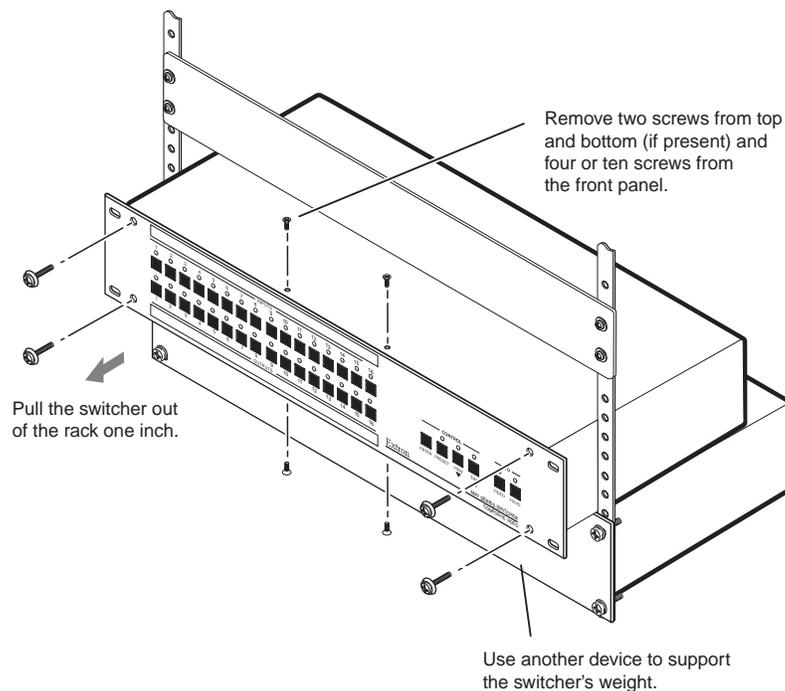

Figure 1 — Partially removing the matrix switcher from a rack and removing the front panel
2. Carefully pull the switcher forward 1" (2.5 cm) (figure 1). If your switcher has screws on the top and bottom that need to be removed, give yourself just enough room to access the screws on the top and bottom of the front of the switcher.
1. If the switcher has screws on its top and bottom, remove the two top and bottom screws (four screws total) on the front of the switcher (figure 1).